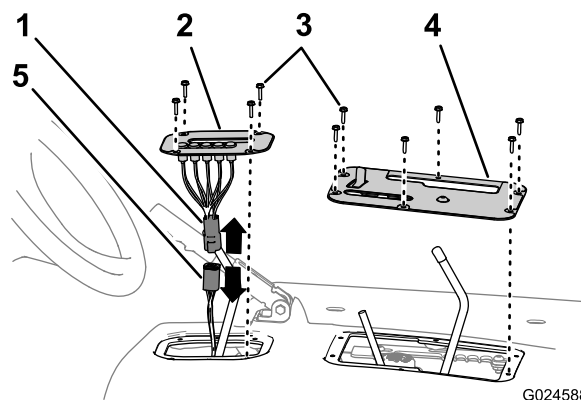

Figure 5
2. Remove the 4 hex-head screws that secure the shift-indicator cover to the seat shroud (Figure 5).